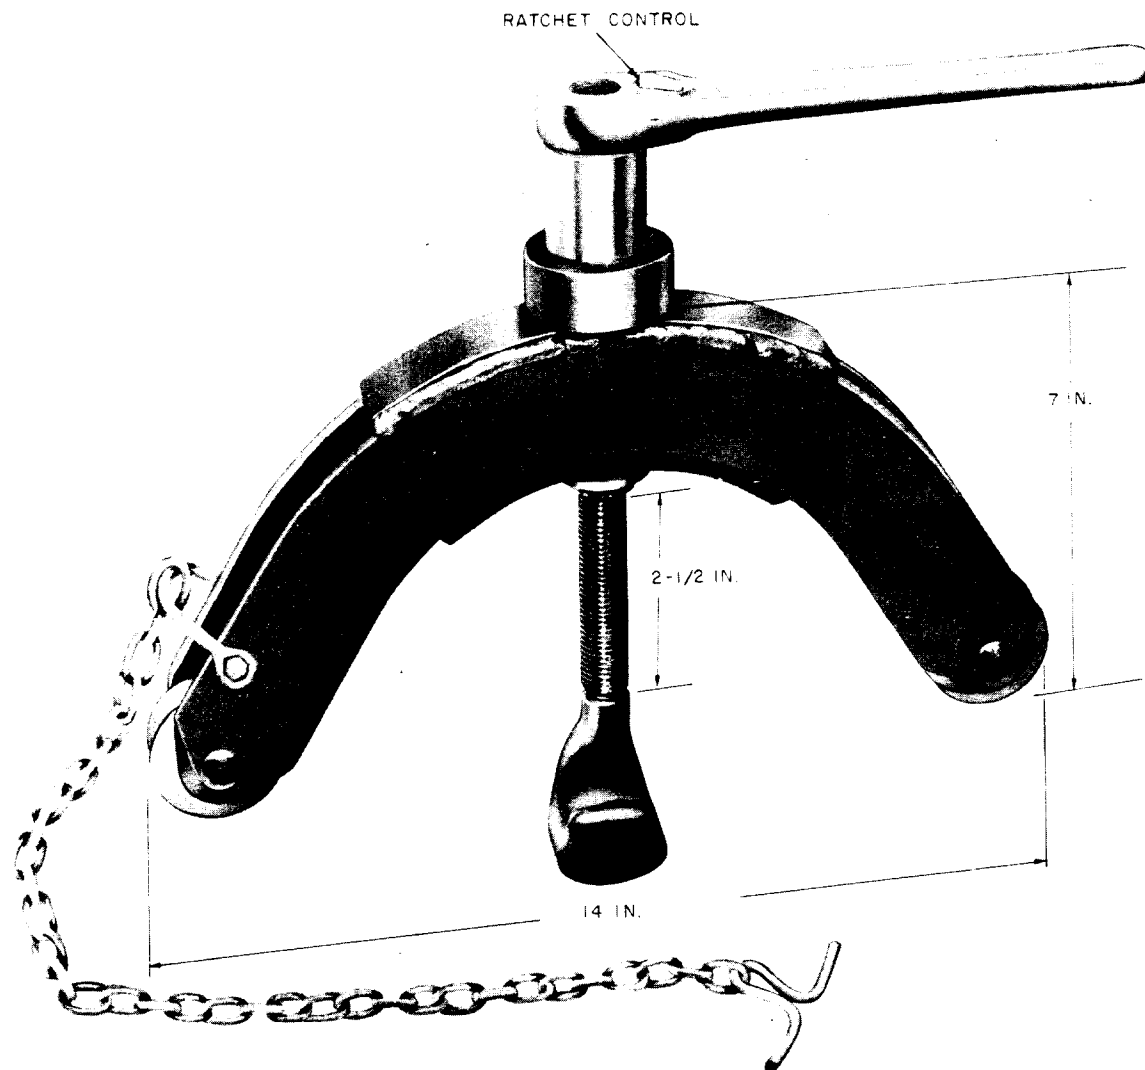

Fig. 1—F Slack Puller
2.01 The F slack puller consists of a welded-steel arch-shaped frame supporting grooved rollers at each end, a lifting screw assembly, and a ratchet handle (Fig. 1). Attached to the frame is a shackle and safety chain to prevent accidental dropping from the strand.
3.01 Slack pullers which are superseded but still in use are discussed below. All have approximately the same dimensions indicated in Fig. 1 for the F puller.